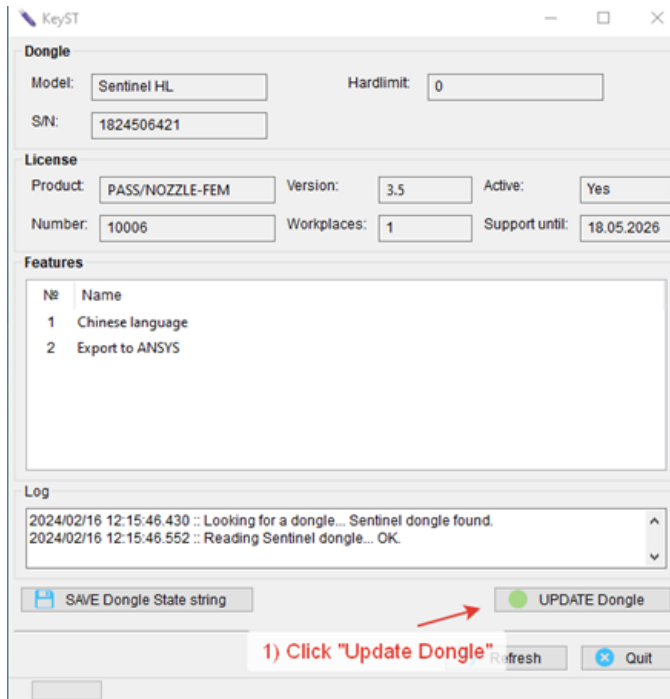

Fig. 2.15. Applying an update string to a Guardant/Sentinel HL dongle
4. You need to open the .sntlupx/.grdupx file in KeySt program. To do this, press the “Update dongle” button and select the file (**Fig. 2.15**).